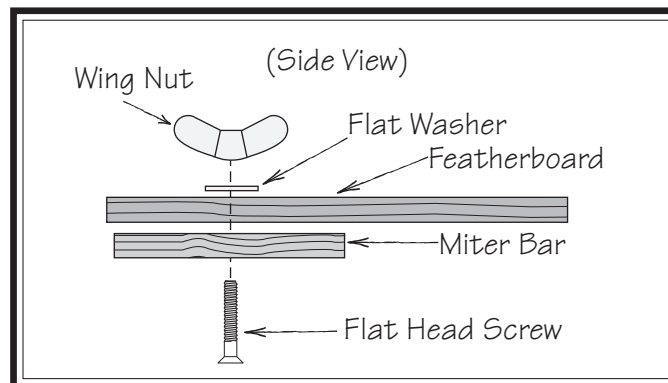

Figure 86. Assembling miter slot featherboard components.
8. Assemble miter bar and featherboard with a $\frac{1}{4}$ "-20 x flat head screw, flat washer, and a wing nut or a star knob (see **Figure 86**). Congratulations! Your featherboard is complete.